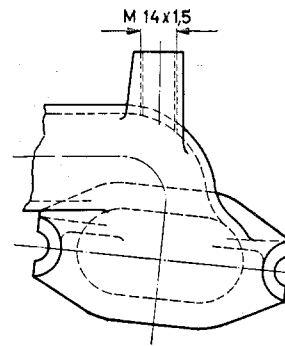

Fig. 42—15/2
11. Unscrew the air cleaner, the exhaust manifold, and the intake manifold together with carburetor from the engine and tap an $M 14 \times 1.5$ thread for the screwed union in the cast lug of the intake manifold perpendicular to the lug surface (Fig. 42—15/2). Coat the screwed union with sealing com-